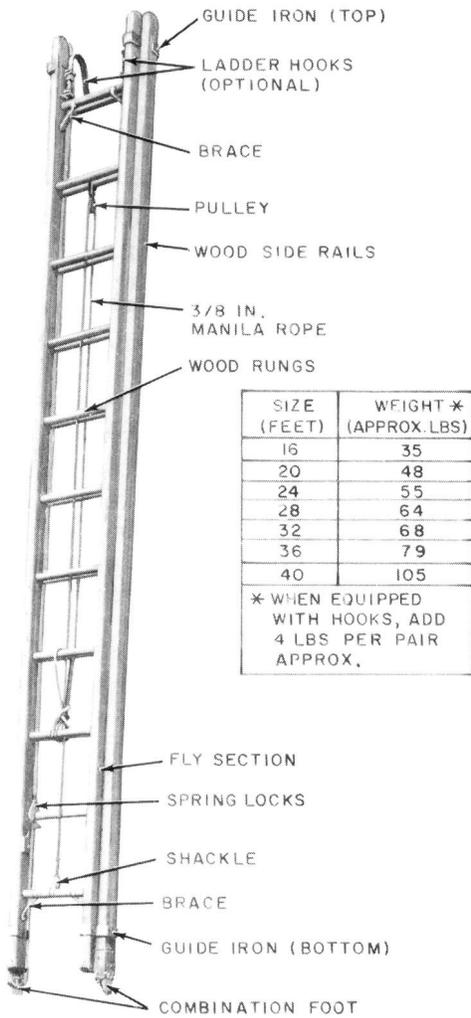

Fig. 1—C Extension Ladder
3.01 Extension ladders and their features are listed in Table B and are shown in Fig. 1, 2, and 3.